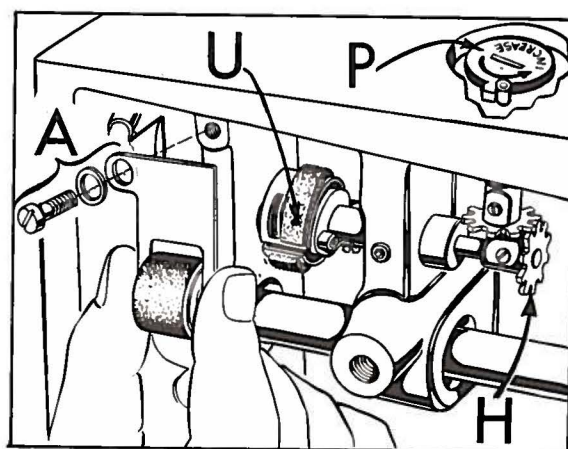

Fig. 27
12. Assemble the hook oil feed roller (A, Fig. 27), and rotate the metering cup so that the roller contacts the metering cup felt at point (U, Fig. 27). Turn the oil control adjusting shaft (P, Fig. 27) in the increase direction until projection stops against the stop pin (this is maximum oil supply) and install the cog (H, Fig. 27) on the hook oil control shaft. After meshing the teeth, tighten the set screw securely.